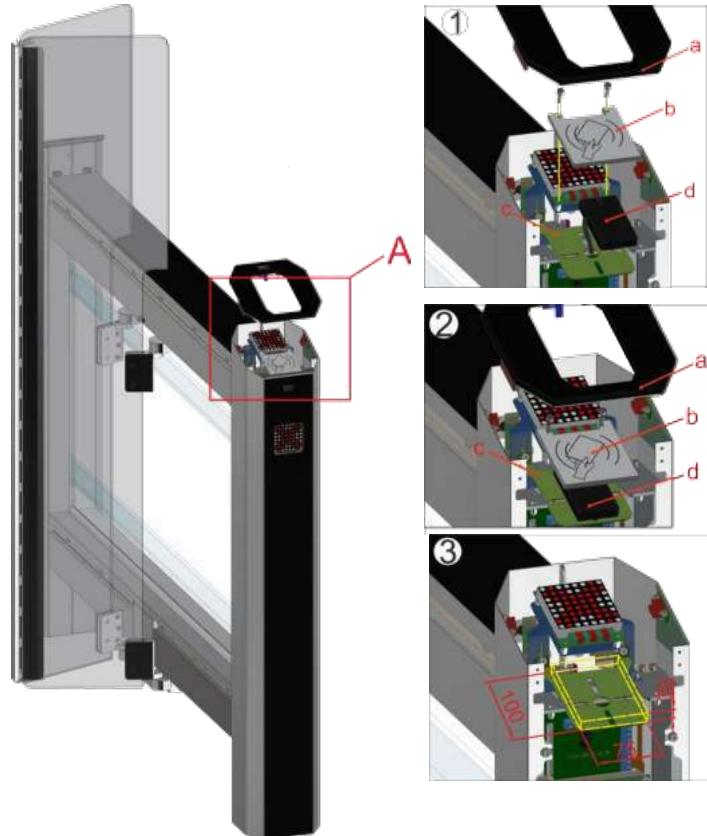

Fig.20 – Installation of card reader
4. install a reader if needed (see fig.20);
13) Installation of proximity card reader \* (*supplied by order for a fee*), upon availability of access control system (ACS) (Fig.20).
3 - The maximum dimensions of the identification card reader (d) to be installed is **75x100x30** mm (See Fig. 20);